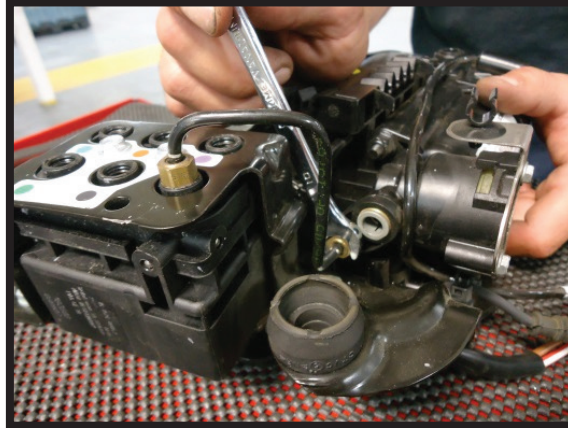

FIGURE 10
1. Set the pump assembly on a work bench and begin by removing the air line fitting from the Compressor. Remove the air line fitting from the air hose and discard. (FIGURE 10)